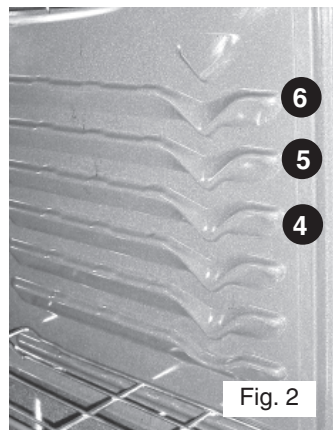

Fig. 2
- When using 2 oven racks at the same time, place in positions 2 & 5 for best results (See Fig. 2)
### Broil Rack Position Table (Refer to Fig. 2)